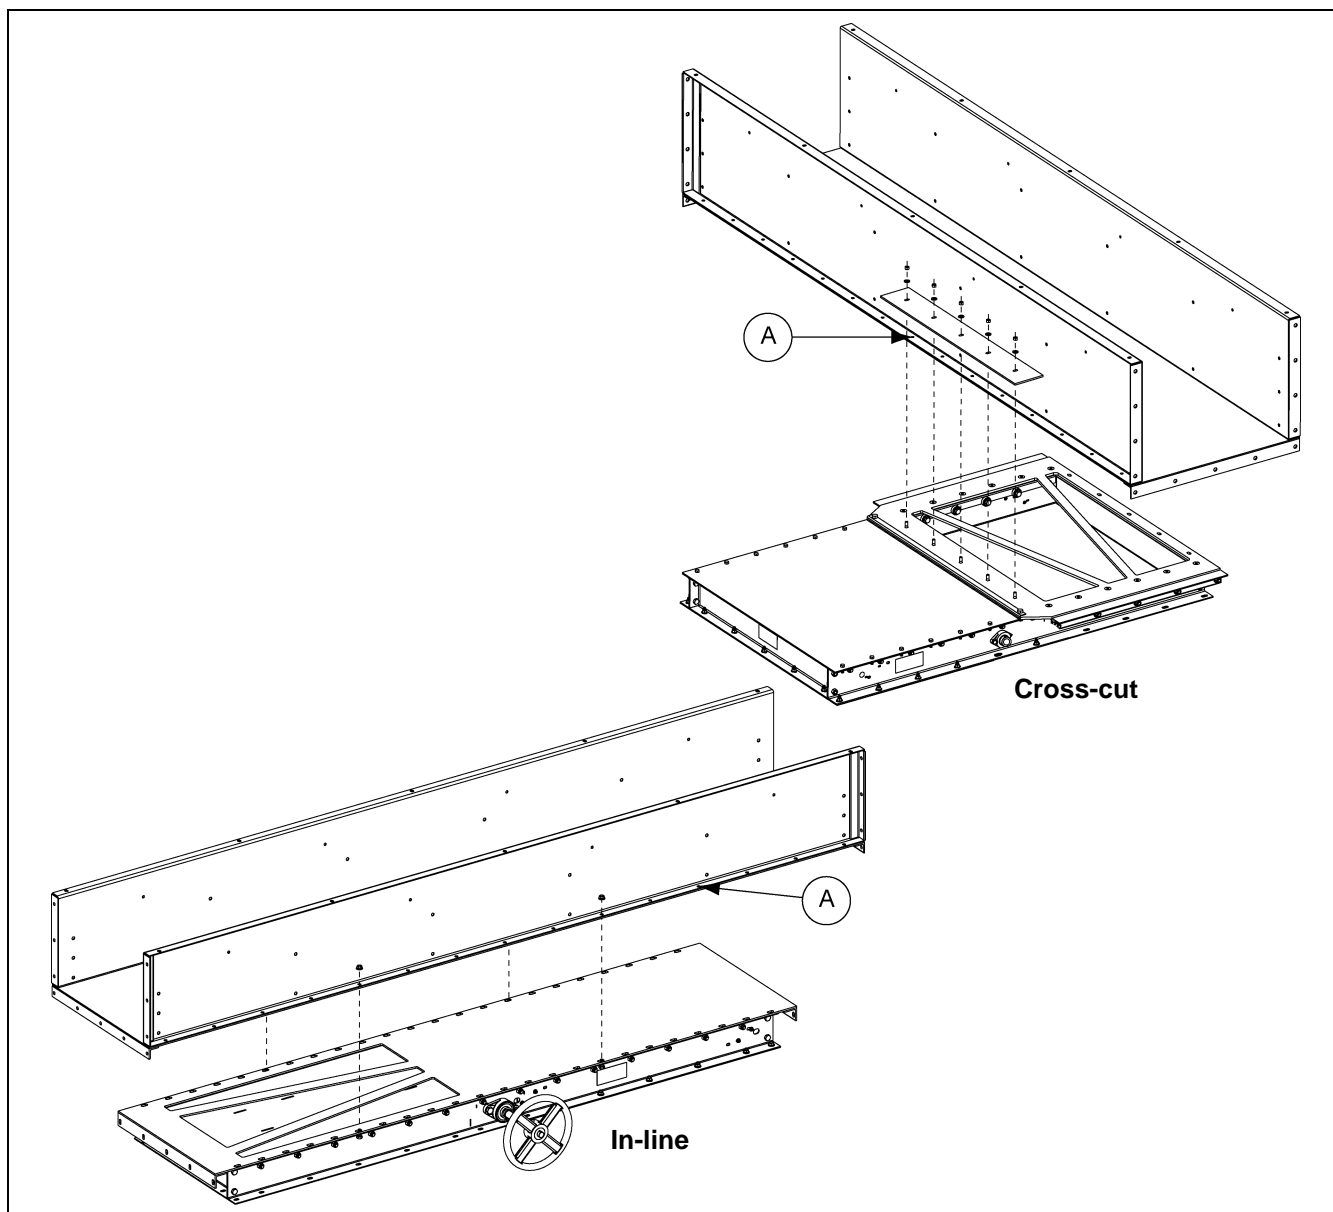

Figure 30
3. It may be necessary to drill holes in the trough side flange. (See Figure 30.)